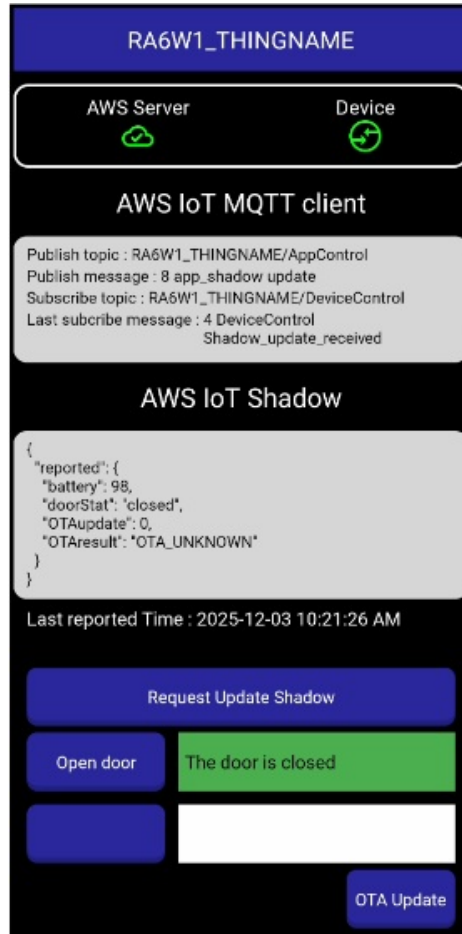

Figure 17. Shadow update on mobile app
7. RA6W1 parses this and publishes the shadow to the application and the box under AWS IoT Shadow is updated according to the received values, also the state of door is changed in the application along with the shadow, see Figure 17.
The flow of shadow update process is the following, see Figure 17: